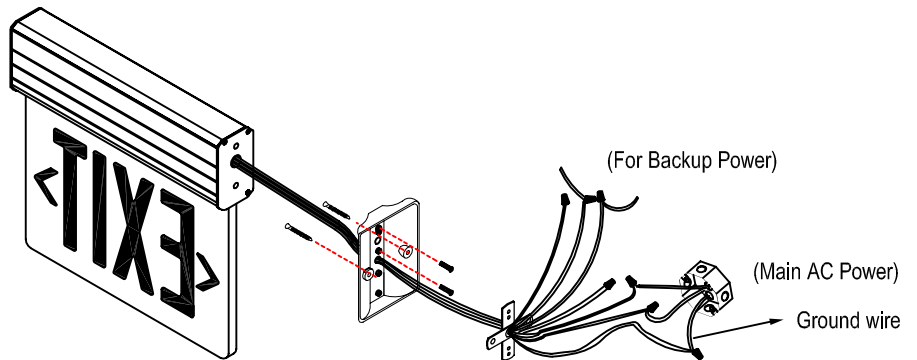

Fig. 6 Side Mounting
4. Assemble canopy to side plate (see Fig. 6) using holes "3" and "5", with (2) 10-24 screws and nuts.